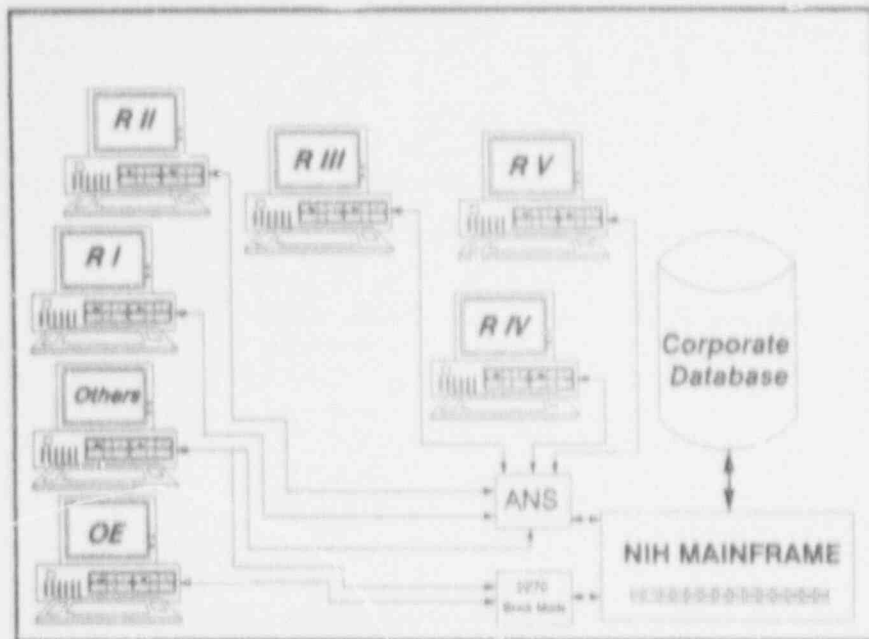

Figure 2: Enforcement Action Tracking System
The Office of Enforcement (OE) requested that IRM convert the existing Enforcement Action Tracking System (EATS) from a PC-based environment to the corporate environment (SINET). This request is based on the need for regional access to enforcement actions in order to more uniformly determine violations and severity levels. Additionally, an interface with the SINET Inspection Follow-up System (IFS) allows inspectors and other regional IFS users to track escalated enforcement items. EATS is scheduled for implementation into SINET in January 1992 (Figure 2).